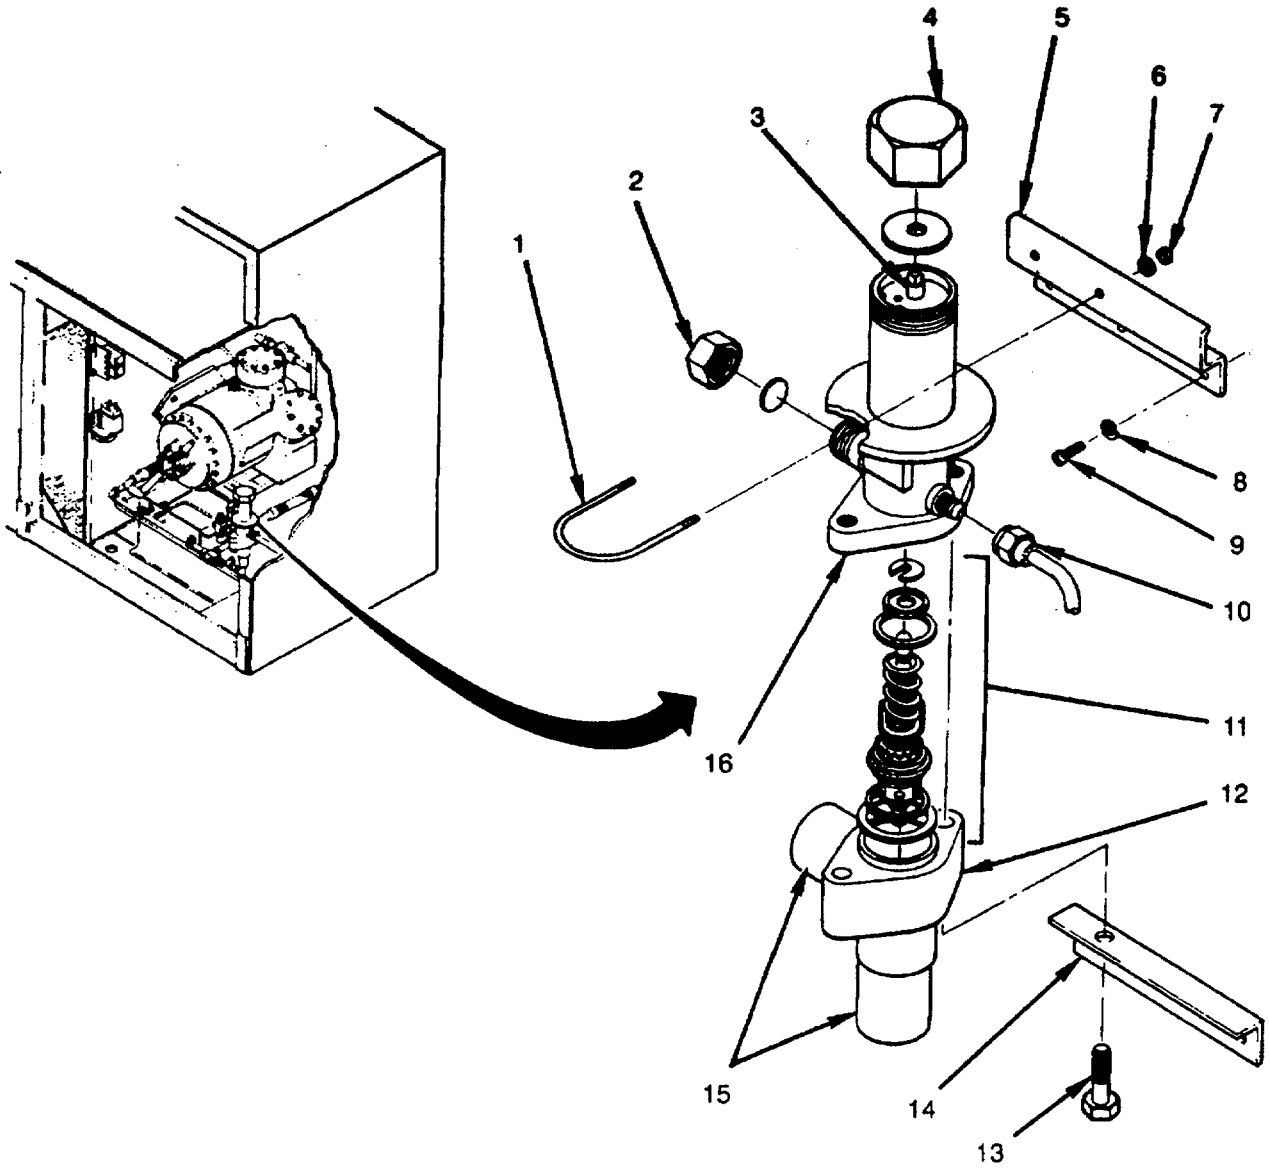

Figure 5-26. Hot Gas Bypass Valve
1. Inspect for evidence of leaks, damaged lines, and loose or missing mounting hardware (see Figure 5-26).